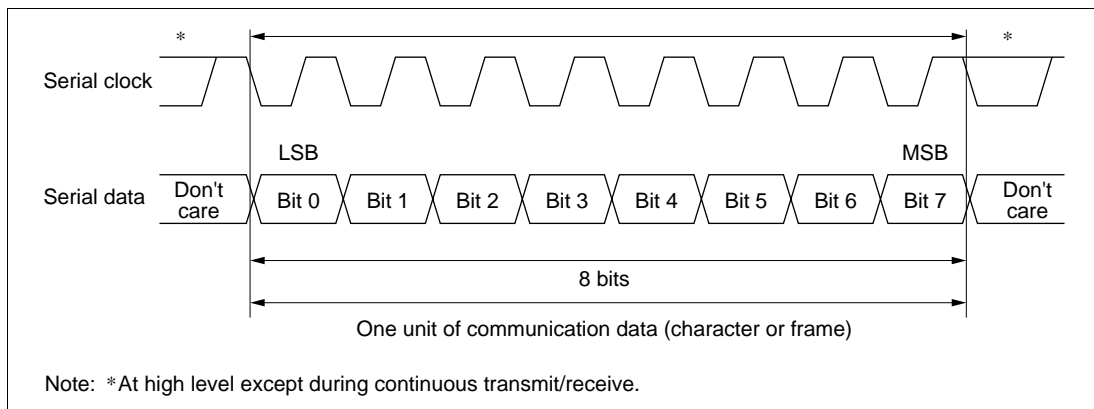

Figure 10.12 Data Format in Synchronous Communication Mode
(1) Transmit/Receive Format: Figure 10.12 shows the general communication data format for synchronous communication.